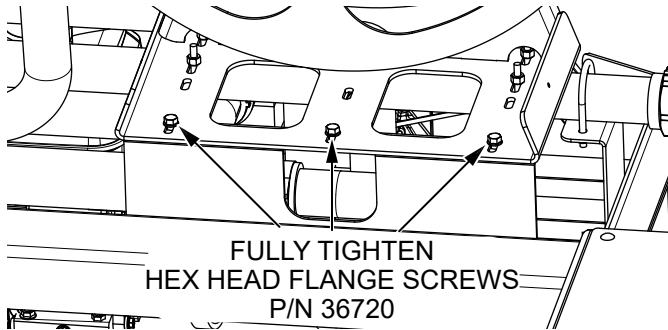

Figure 9. Fully Tighten Hex Head Flange Screws
7. Using a 1/2" wrench or socket, fully tighten the **three 5/16-18 x 3/4 hex head flange screws (P/N 36720)** that were installed in step #5. See Figure 9.